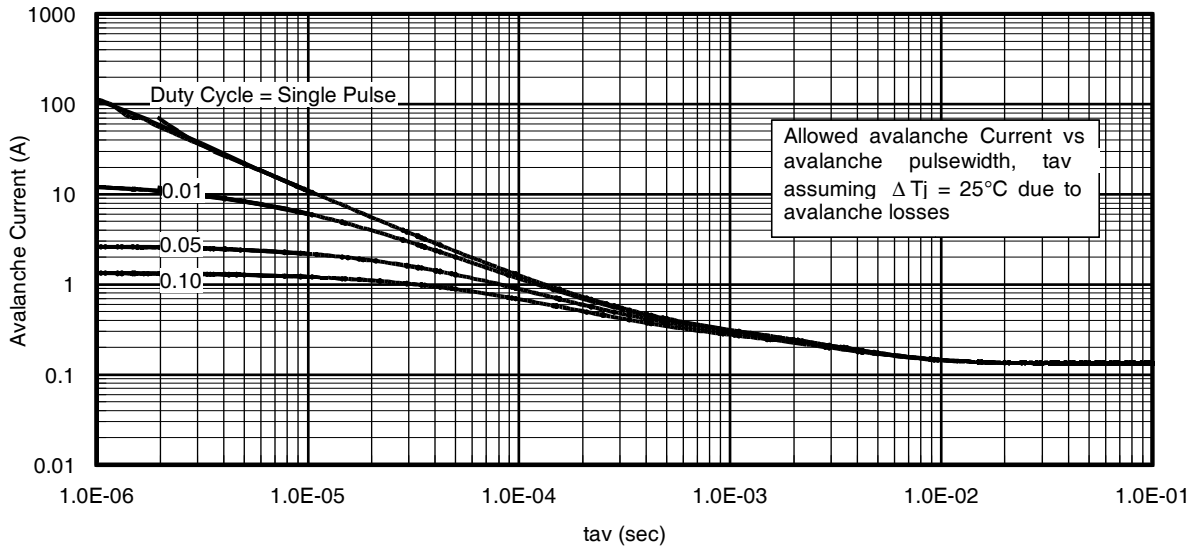

Fig 14. Typical Avalanche Current Vs. Pulsewidth
- ① Repetitive rating; pulse width limited by max. junction temperature.
- ② Starting $T_J = 25^\circ\text{C}, L = 1.62mH, R_G = 25\Omega, I_{AS} = 11A$.
- ③ Pulse width $\leq 400\mu s$; duty cycle $\leq 2\%$.
- ④ R_{θ} is measured at T_J of approximately 90°C .
- ⑤ Limited by T_{jmax} . See Figs. 14, 15, 17a, 17b for repetitive avalanche information.
Notes on Repetitive Avalanche Curves , Figures 14, 15:
7. ΔT = Allowable rise in junction temperature, not to exceed T_{jmax} (assumed as 25°C in Figure 14, 15).